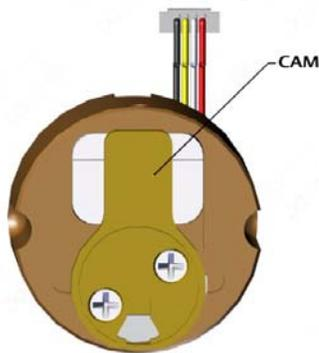

Fig. 4
Step 2: Verify that the cam on the M100 is the same style as was on the cylinder that was just removed. If the removed cylinder is a **Medeco** brand, the cam can be interchanged onto the M100 (Fig. 4).